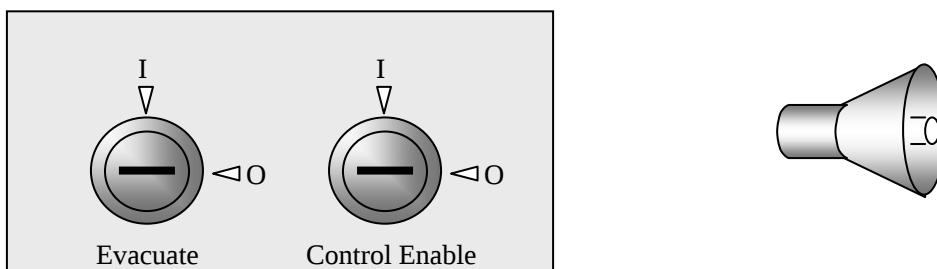

Fig.4.1.5b Silence the sounders
4.1.5.2 Turn the key in the **Evacuate** keyswitch to **O** position, then the sounders are closed. See Fig.4.1.5b.